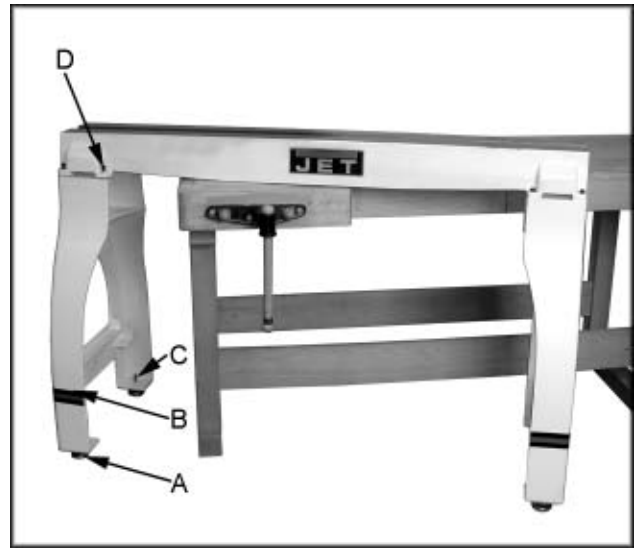

Fig. 2
2. Angle lathe bed so that stand leg mounting holes are accessible, see Figure 2.
3. Thread adjustable feet (A, Fig. 2) into stand leg (B, Fig. 2). There is a flat spot on the shaft near the foot that will accommodate a wrench. Thread a hex nut (C, Fig. 2) onto shaft and leave loose for now.
4. Mount the leg to lathe bed with four 5/16" flat washers and four 5/16"-18 x 1-1/2" hex socket cap screws (D, Fig. 2).